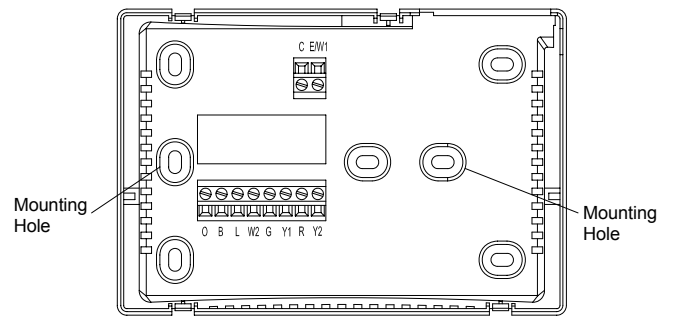

Figure 2. Thermostat base
2. Connect wires beneath terminal screws on base using appropriate wiring schematic (see figs. 2 through 4).